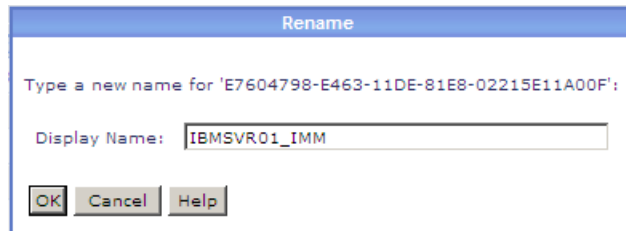

Figure 9-21 Rename box
- A **Rename** display box opens, as shown in Figure 9-21. Provide a meaningful name for the IMM in the text box provided and click **OK** when finished.